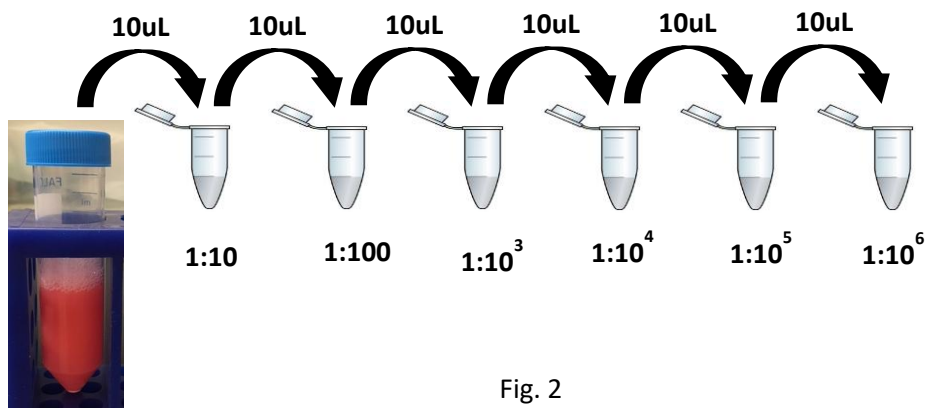

Fig. 2
9. Take 10uL of your harvested culture and add it to the 90uL of LB/Amp in your tube labeled 1:10. Cap the tube and mix by inverting 3-4 times. This is a 10-fold dilution of your harvested culture. (See Fig. 2)